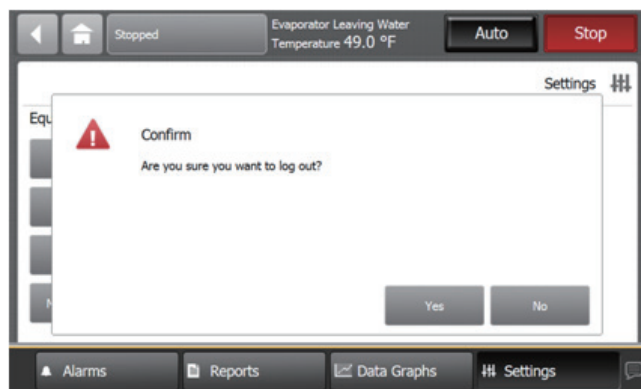

Figure 53. Log out confirmation screen
1. Touch the Log out button. A confirmation screen appears (Figure 53).